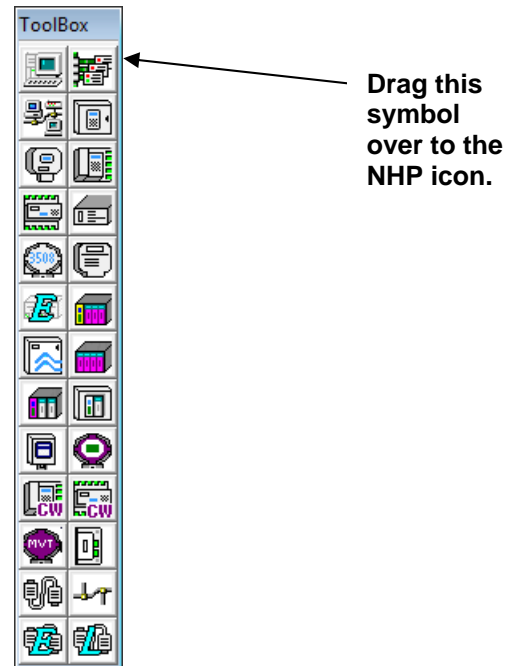

Figure 3-9. Starting the Network Wizard – Method 2
- The other way to activate the Network Wizard is to first click **View>Toolbox** from the menu bar. This activates the Toolbox. From the Toolbox (see *Figure 3-9*). Now drag the BSAP network symbol over to the NHP icon. This activates the Network Wizard.